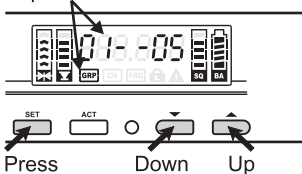

Fig. 11
(A) GRP: GROUP Setting. Fig. 11